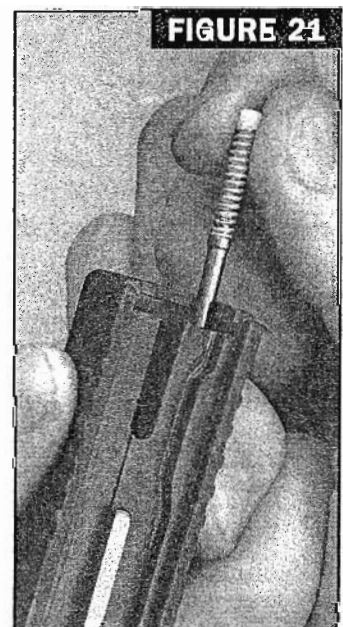

FIGURE 21
- Remove the extractor depressor plunger assembly (Fig. 21).